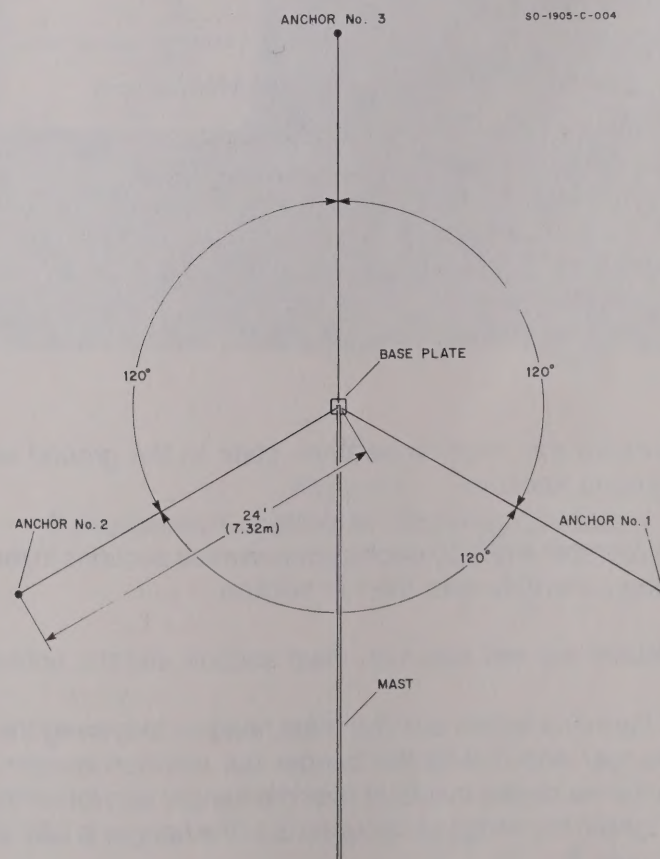

Figure 3. Plot Plan
Position and install three (3) each 12-inch ground anchors as shown in Figure 3.